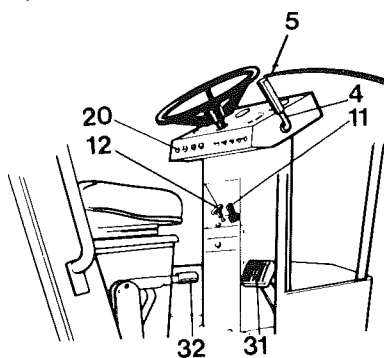

Fig. 11 Operator's platform
(See fig 11). The roller is normally braked using the forward/reverse lever (4). The hydrostatic transmission slows down the roller when the lever is in NEUTRAL.
(See fig 11). For emergency situations, the roller is equipped with a foot brake (31), which acts on the rear wheel drum brakes.
(See fig. 11).